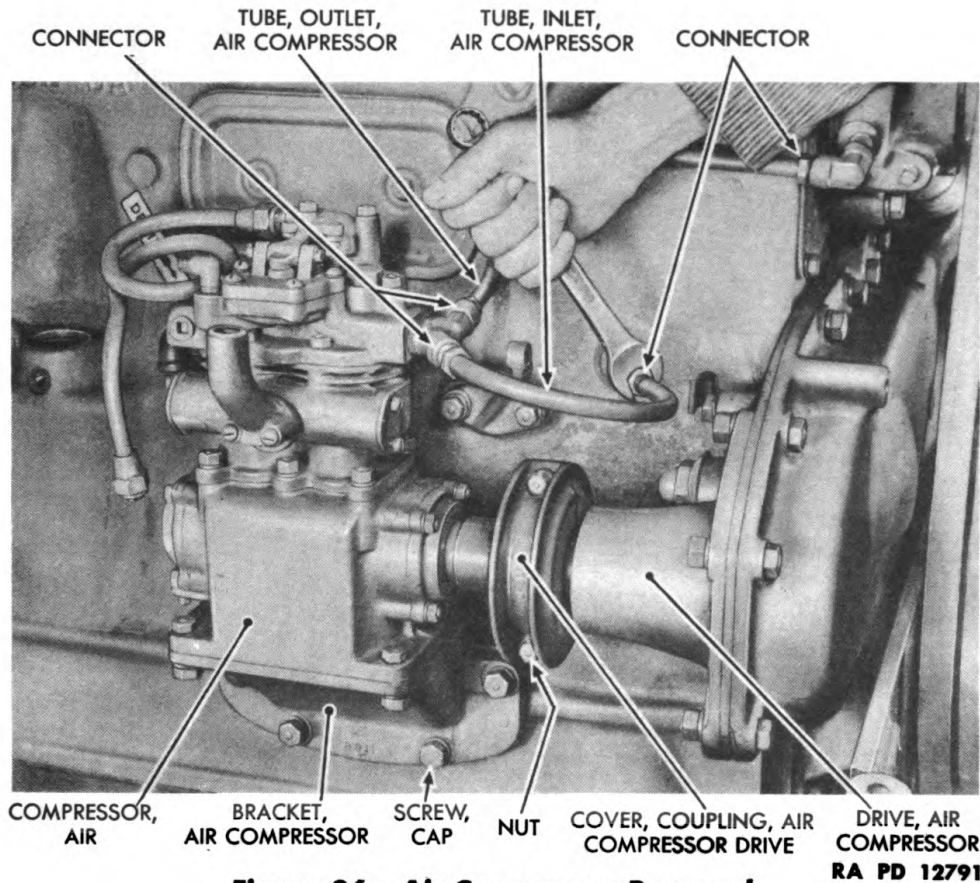

Figure 26—Air Compressor Removal
47. AIR COMPRESSOR REMOVAL (fig. 26).